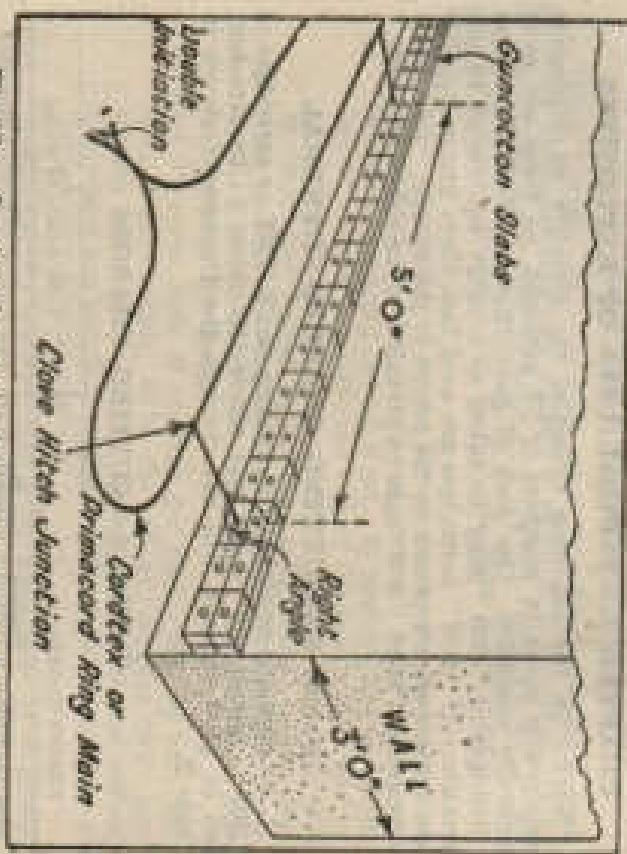

Fig. 13. Cutting charge on thick masonry wall, showing points of initiation. (Fusing omitted for clarity)
- (b) Long continuous cutting charges should have points of initiation (primers fired by cordite, etc.) at already described) every 5 ft. of their length (see Fig 13). Grenades, however, should be placed flat end to flat end, with every other grenade initiated by cordite. Where possible initiation should be on the surface of the charge furthest from the face of the object attacked and at right angles to it (see Fig 13).
For walls over 9 ins and up to 18 ins thick use a continuous line of grenades placed tail end to tail end. Every other grenade should be initiated with cordex as already described. It is emphasized again that such charges are NOT sufficient for reinforced concrete walls. Fig. 13 shows a thick masonry wall with a cutting charge of four shabs of GC per foot run.